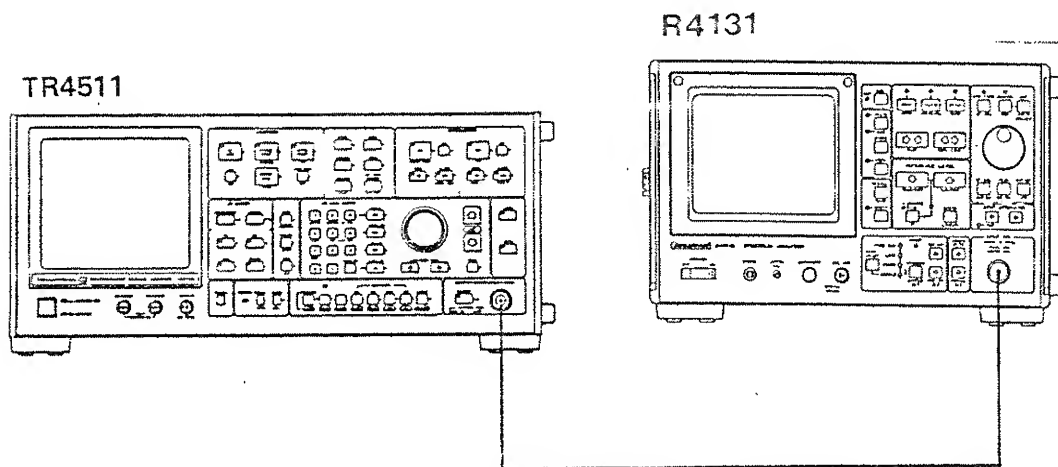

Figure 11-10 Noise Sidebands Test Setup
(2) Procedure
- ① Connect the spectrum analyzer and the synthesized signal source to each other as shown in Figure 11-10.
- ② Set the output of the synthesized signal source to 1 GHz (carrier wave) and -10 dBm.
- ③ Set the spectrum analyzer as follows: